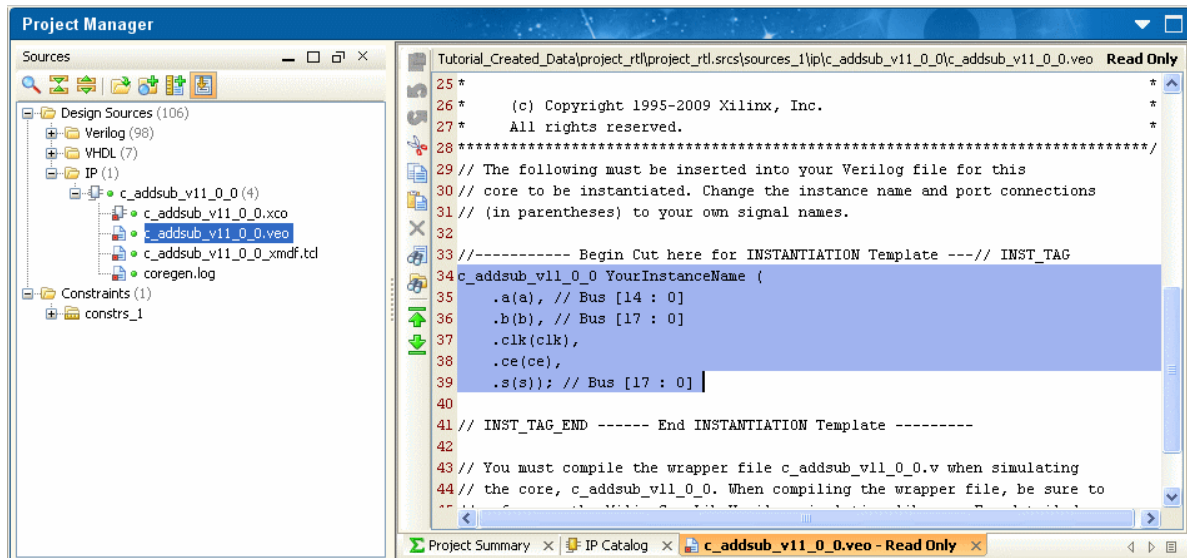

Figure 30: Viewing the Instantiation Template
- 7-2-3. Double-click the `c_addsub_v11_0_0.v eo` file to view the instantiation template in the Text Editor (Figure 30).